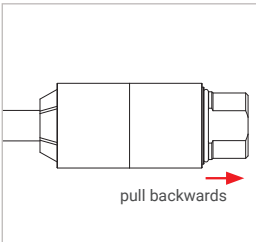

Figure 4
- ▶ Pull lightly on the connector housing (Pos. 1) (red arrow *Figure 4*) in the direction opposite that of the connection to make sure that the connector is firmly in place.